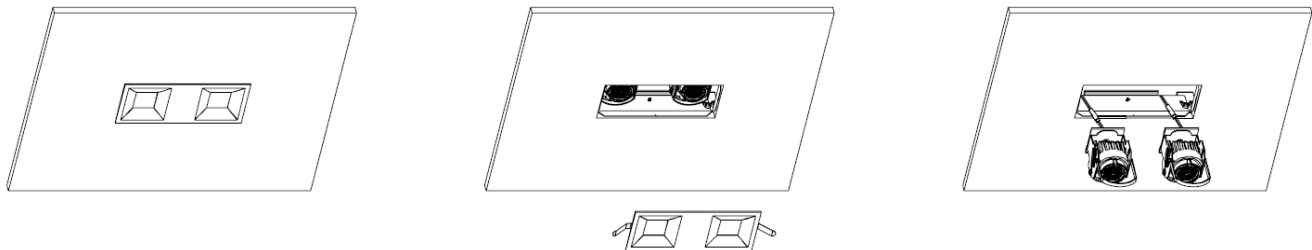

FIG 21
2. Using the handle, carefully pull and loosen the light module from the housing.(See FIG 21)
3. Unplug the light module wire harness using the quick connector. (See FIG 21 )